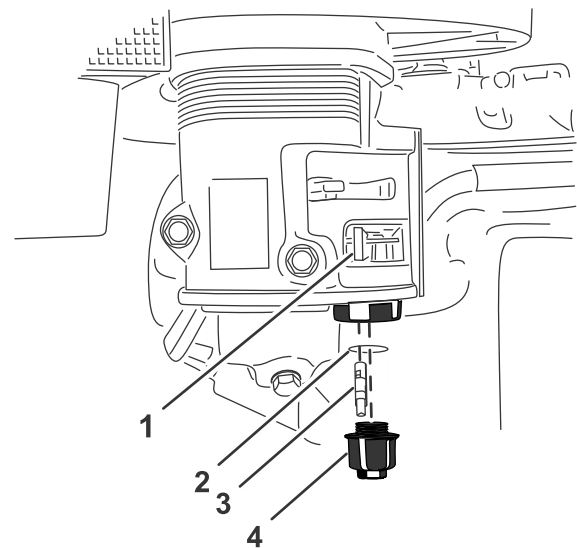

Figure 42
2. Move the fuel-shutoff valve to the CLOSED position (Figure 42).
3. Unscrew the sediment cup (Figure 42).
4. Remove the fuel filter and O-ring (Figure 42).
7. Install the fuel filter in the bottom of the carburetor (Figure 42).